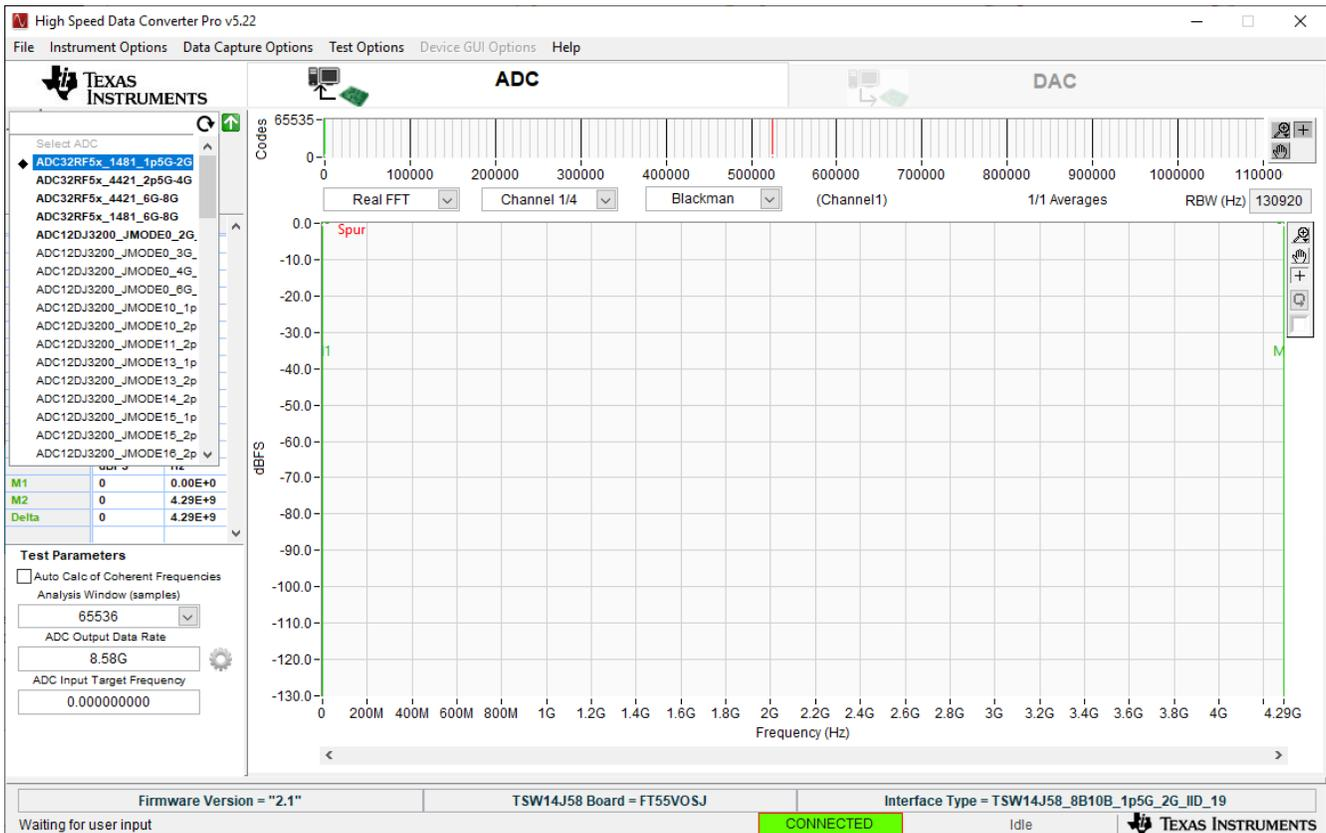

Figure 4-6. ADC32RF5x_1481_1p5G-2G INI file
10. In HSDC Pro, connect to the TSW14J58EVM and select **ADC32RF5x_1481_1p5G-2G** as the INI file shown in Figure 4-6 below.